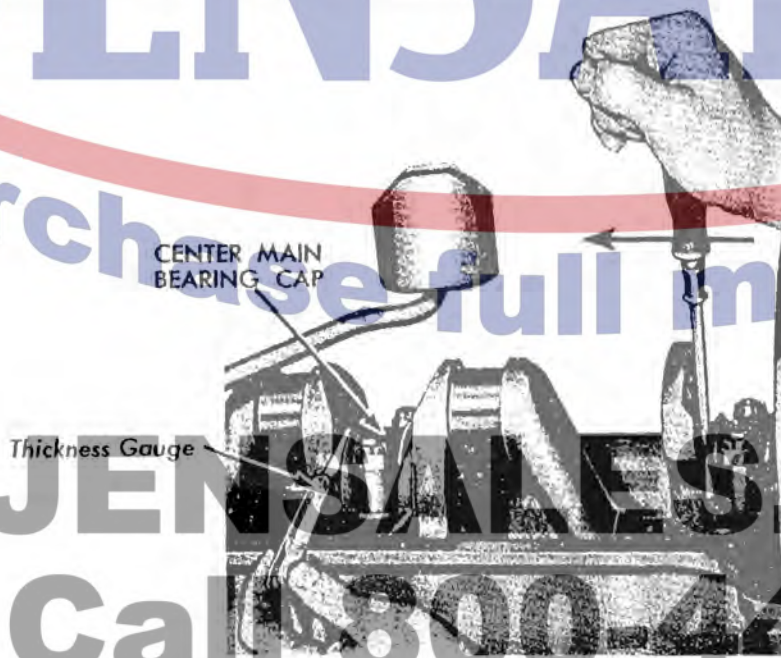

Fig. 46—Measuring Crankshaft End Play
a. **Install Crankshaft.** Install the three upper halves of the main bearing inserts in the cylinder block. Install the three lower halves of the main bearing inserts in the two main bearing caps and oil pump body. Coat the main bearing inserts with a light film of oil. Install the crankshaft rear bearing oil seal retainer and seal in the rear of the cylinder block. Place the crankshaft in the cylinder block, and install the main bearing caps and oil pump body on the cylinder block. Install the main bearing cap nuts or self-locking nuts and tighten them from 80 to 90 pounds-feet if using self-locking nuts. Tighten from 75 to 80 pounds-feet if using castellated nuts. Pry the crankshaft forward and insert a feeler gauge as shown in Fig. 46.